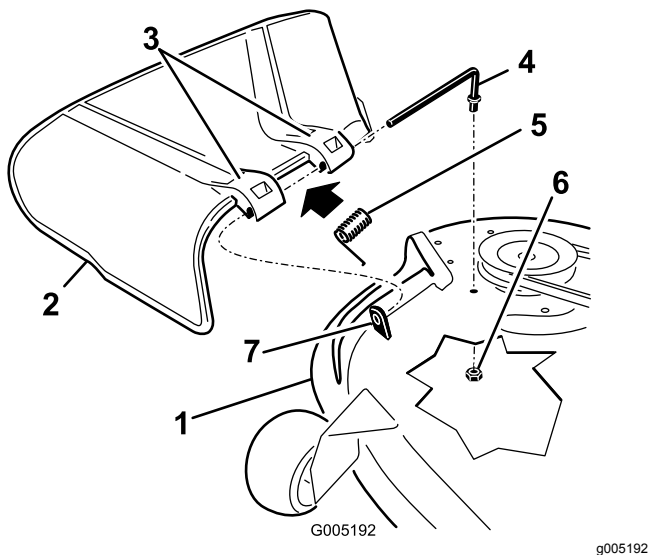

Figure 56
1. Remove the nut (3/8 inch) from the rod under the mower (Figure 56).
2. Slide the rod out of the short standoff, the spring, and the grass deflector (Figure 56).
4. Replace the grass deflector (Figure 56).
7. Slide rod through the second grass-deflector bracket (Figure 56).
9. Secure the rear end of the rod into the mower with a nut (3/8 inch) as shown in Figure 56.